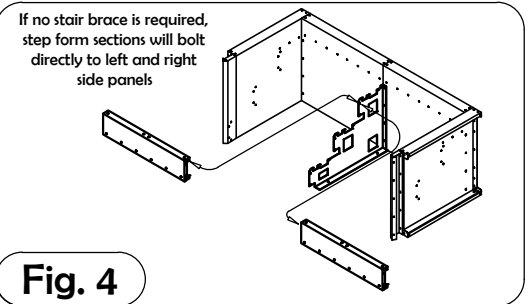

Fig. 4
4. Bolt the center step to the left and right side panels and bolt the treads and risers together (Fig. 4). Each step will have 2 center step sections.
4. Bolt the top center step forms together (through stair brace if one is needed) starting with the upper tread level. Bolt form ends to side stair panels (Fig. 4).